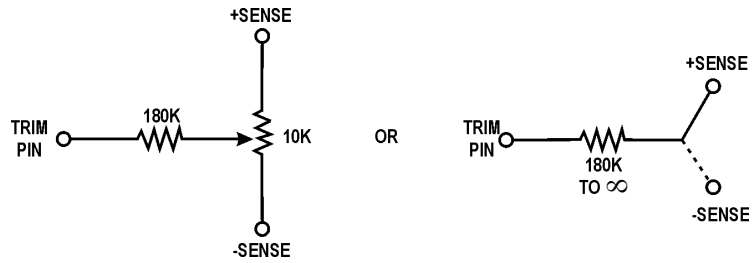

Figure 6. Output Voltage Adjustment (V1 & V2)
13.3 Output Voltages. Each output voltage is factory set to its nominal value to an accuracy of $\pm 1\%$. The V1 and V2 output voltages can be more accurately adjusted to a value within a $\pm 5\%$ range by means of external components as shown in Figure 6. Also be aware of the output voltage polarities as shown in the Model Suffix Selector in Appendix A1 and A2.